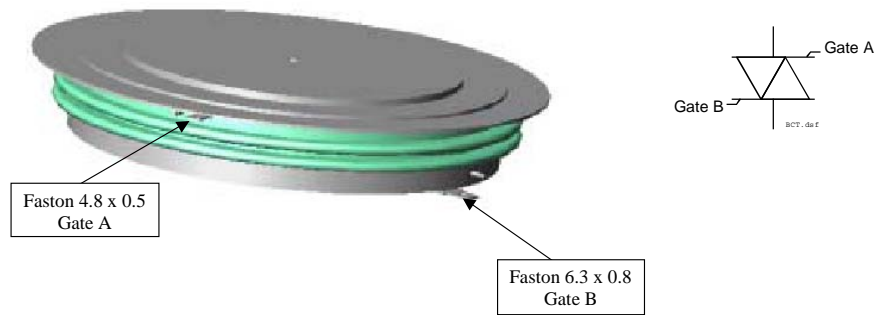

Figure 6-1 Gates of BCT
5. Turn the thyristor so that the gate leads point in the right direction. When changing BCT's make sure, that gate B is in front (see figure 6-1).